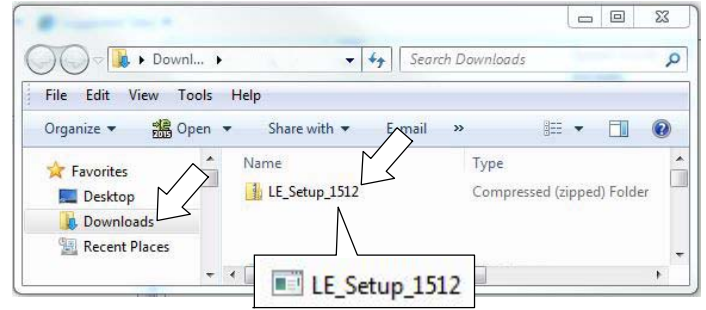

Fig. 31
6. Open the “Downloads” folder and locate the “LE_Setup_ xxxx” zip file. Open the zip file and double click on the “LE_Setup_ xxx” file to install the application software on your computer (Figure 31). Follow instructions on screen to install.
4. Open the “Downloads” folder and locate the “LE_Setup_xxxx” zip file. Open the zip file and double click on the “LE_Setup_xxx” file to install the application software on your computer (Figure 31). Follow instructions on screen to install.